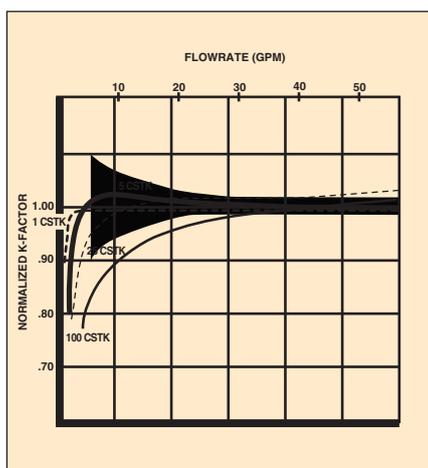

Figure 3: Viscosity effects on 2-inch turbine. Shading denotes error envelope of $\pm 1\%$ full scale
2) Accept a lesser accuracy: Due to the cost advantages of using a turbine flowmeter over other flowmetering types, turbine flowmeters are often used at viscosities that introduce some loss in accuracy and some loss in flow range. A flowmeter may be considered for an application even if its accuracy is only $\pm 1\%$ of full scale instead of the standard $\pm 0.5\%$ of reading which can be achieved on low viscosity fluids. Figure 3 shows the allowable error band of $\pm 1\%$ of F.S. as a frame of reference. It is therefore often possible to provide a standard turbine meter for a viscous fluid application, so long as the user can accept a smaller operating range and/or a decreased accuracy. However, no general guidelines can be laid out, since accuracy, range, and viscosity vary with each application and each turbine meter size. Feel free to give us a call at 800-872-9436 to discuss your application.